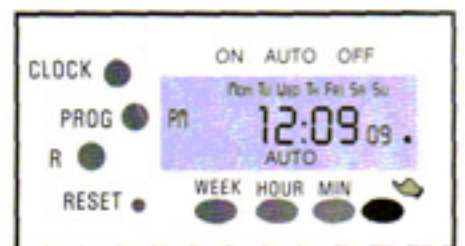

Figure 14
- 3.4 If the display is reading "AUTO" (See Figure 14) then the timer is on the program mode. Be sure to move the display from "ON" to "OFF" then back to "AUTO" not directly from "ON" to "AUTO" to be on the program mode.